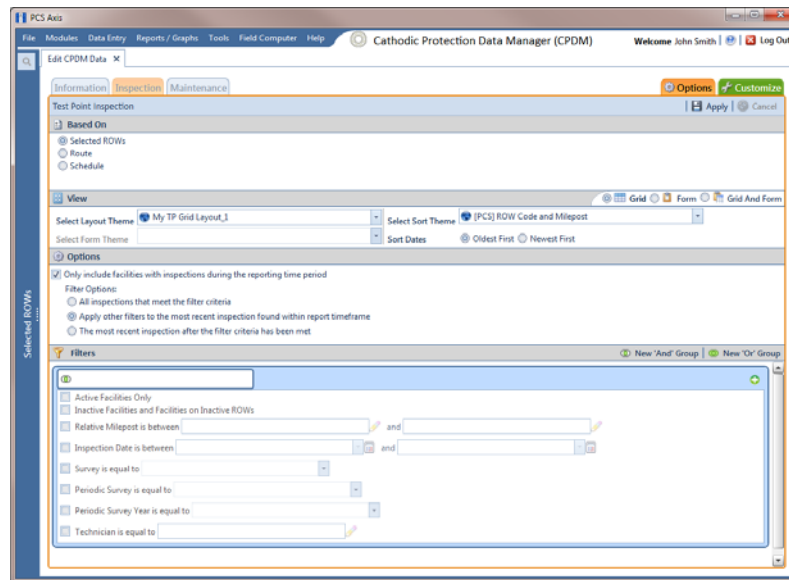

Figure 8-29. Options
- 7 Click  **Save**, then click the **Options** tab  **Options** to open the options page (Figure 8-29, page 380).